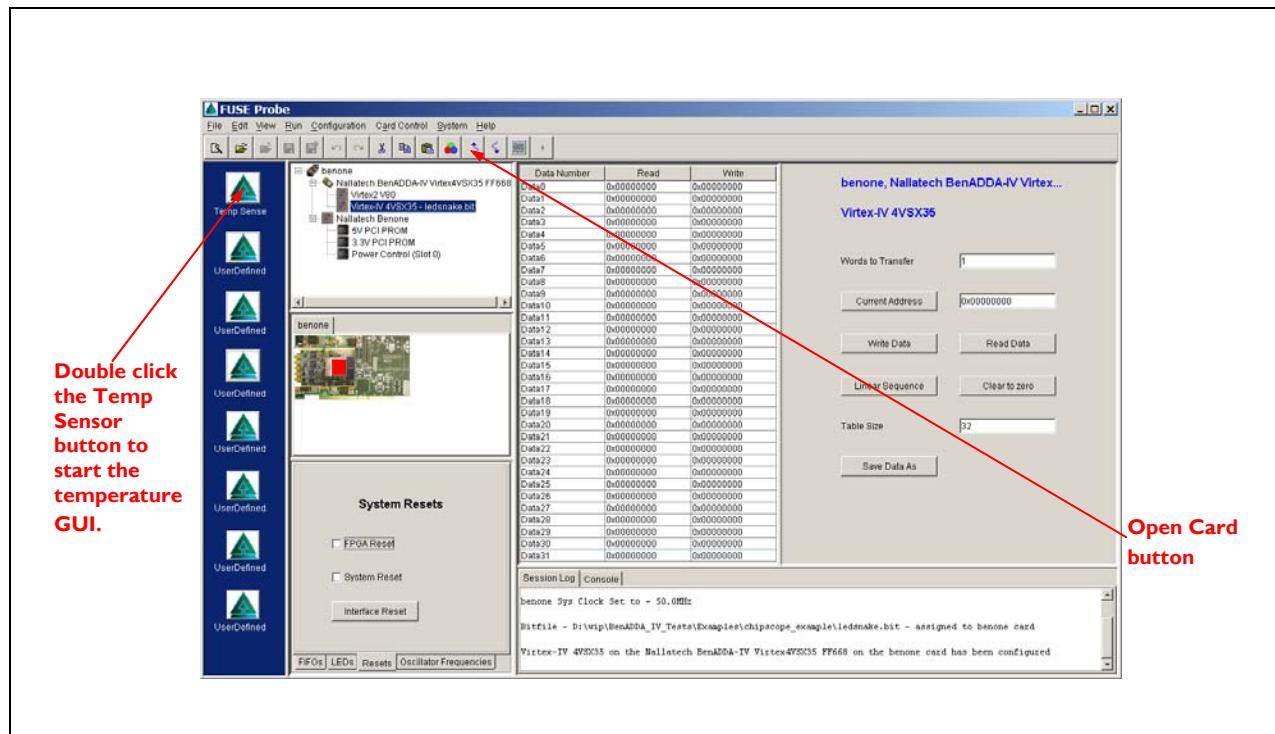

Figure 51: FUSE Probe showing Temp Sensor Plug-in
- I. To open the FUSE Probe Tool either click on the Nallatech Icon on the taskbar or go to the 'Start' menu and then click on '**Programs->FUSE->Software->FUSE Probe**'. This will launch the FUSE Probe Tool shown in **Figure 51 on page 85**.